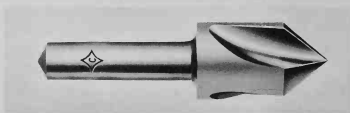

Fig. 4-53. A countersink drill.
9. Holes which are to receive tapered heads of rivets, screws or bolts, must be countersunk. This may be done with a countersink drill, Fig. 4-53, or by using a drill bit twice the diameter of the hole.